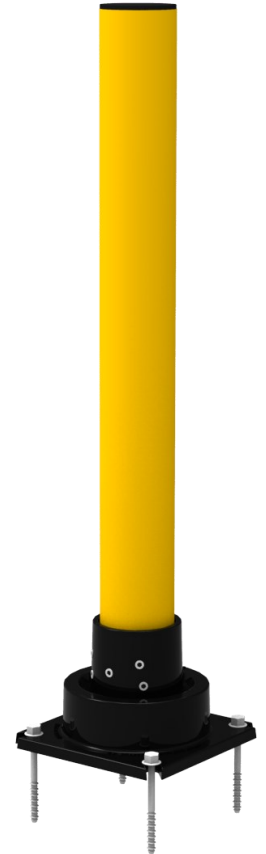

Figure 2
8. When complete, the assembly should appear like Figure 2. (Models may vary.)